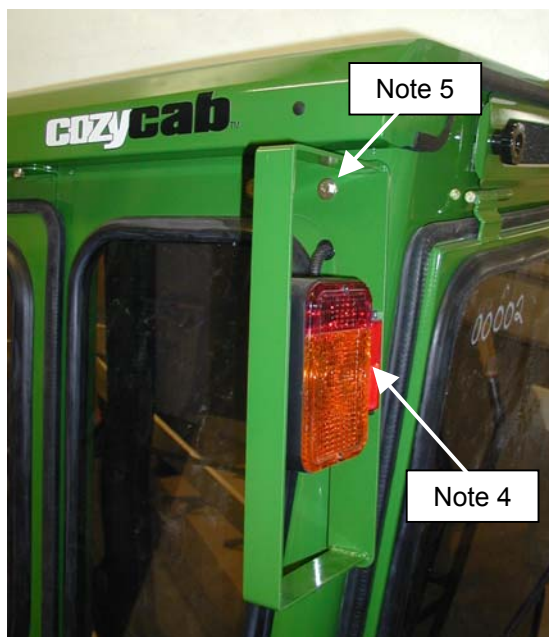

Figure 4
4. Attach amber lights to single or dual light mounting brackets #7-15827 and #7-15828. Secure lights to bracket with; (See Figure 4).